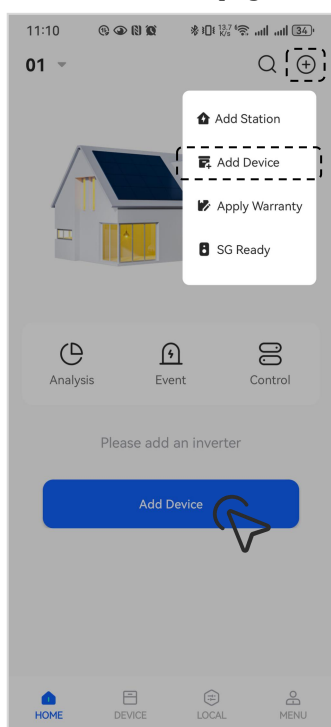
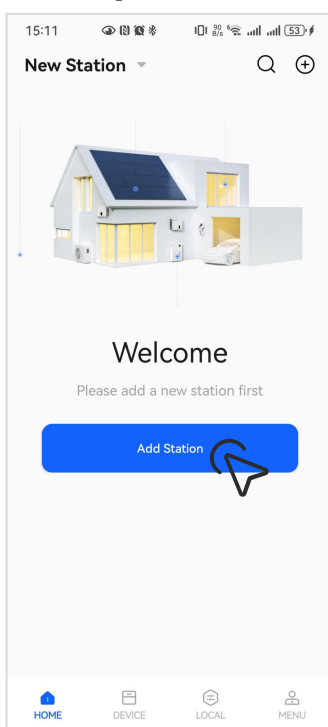

Figure 27
Figure 28
① Now you have a station, but need to configure the network for devices or add new devices to your station?
- Please tap "Add Device" on the page or the "+" button to add devices to your station, as shown in Fig. 27. Then you can directly turn to "Network Connection".
② Now you don't have a station yet?
- Tap "Create station" on the page, as shown in Fig. 28.